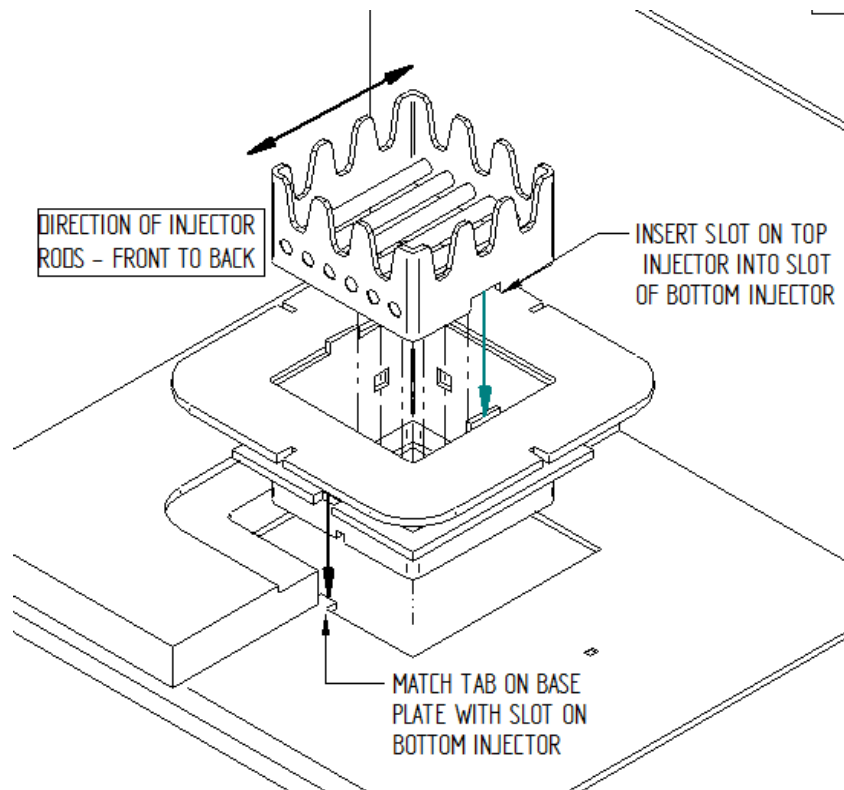

Fig 6.4
19. Place bottom injector by orienting with the tab on the base plate (Refer Fig 6.4)